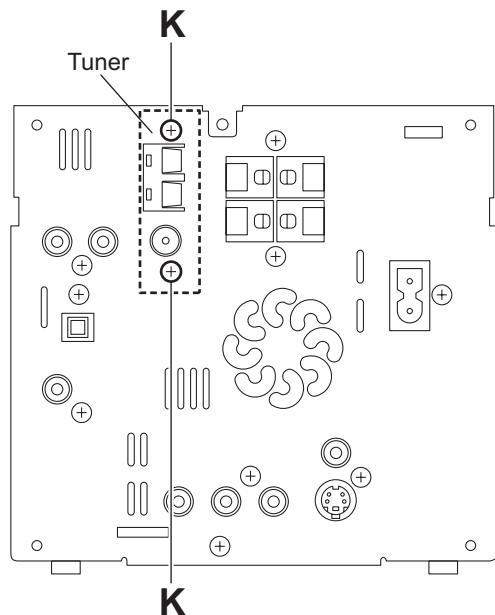

Fig.10
(See Figs.10 and 11)
- (1) From the back side of the main body, remove the two screws **K** attaching the tuner to the rear panel. (See Fig.10.)